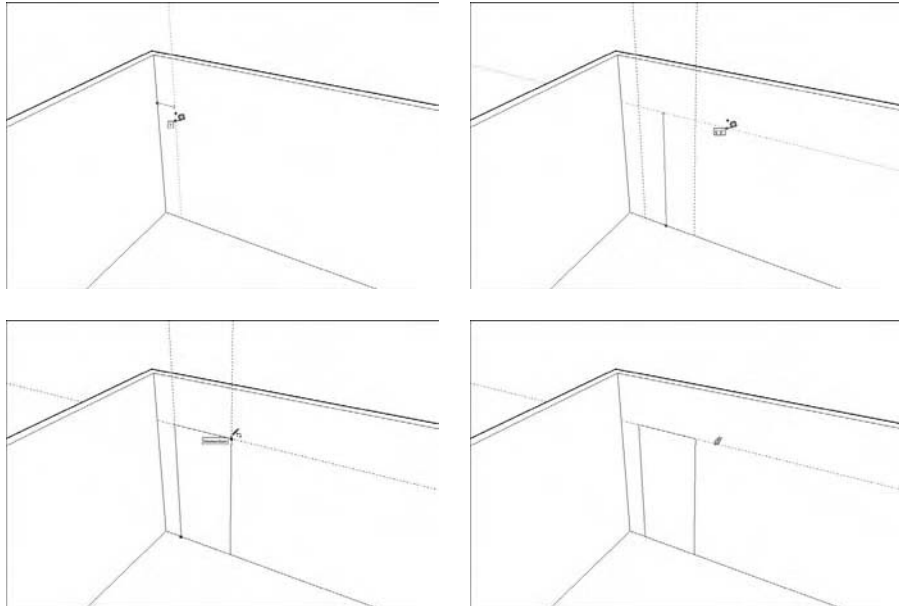

Figure 2-26:
Figure 2-26 shows an example of guides in action. I use guides positioned 12 inches from the wall and 36 inches apart to draw the sides of a doorway. I use another guide 6 feet, 8 inches from the floor to indicate the top, and then I draw a rectangle, bounded by my guides, which I know is exactly the right size. When I'm done, I erase my guides with the Eraser tool, as I explain in a moment.
- ✓ **Parallel guide lines:** Clicking anywhere (except the endpoints or midpoint) along an edge with the Tape Measure tells SketchUp that you want to create a guide parallel to that edge. (See Figure 2-26.) Just move your mouse and you'll see a parallel, dashed line; click again to place it wherever you want.